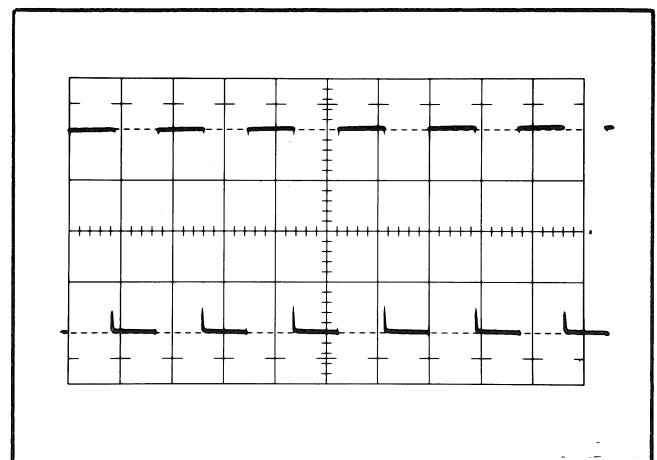

Fig. 5-6. Pulse repetition rate, HIGH. Note 6 cycles of display.
- g. Check—4.5 to 7.5 cycles per 10 cm. See Fig. 5-6.